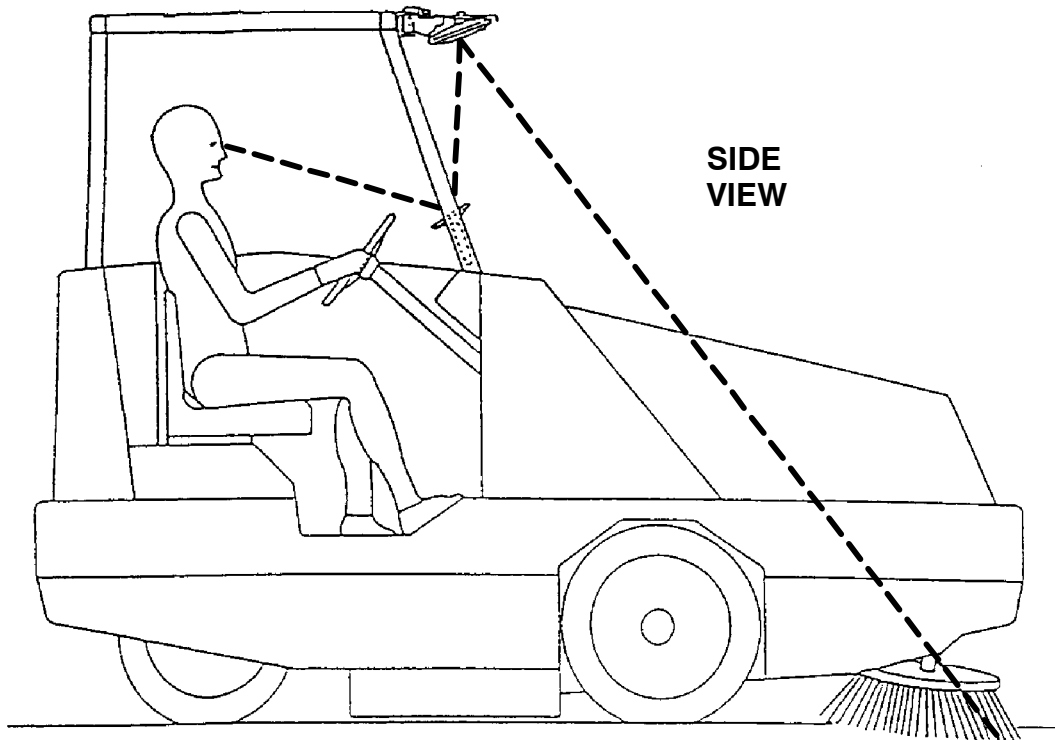
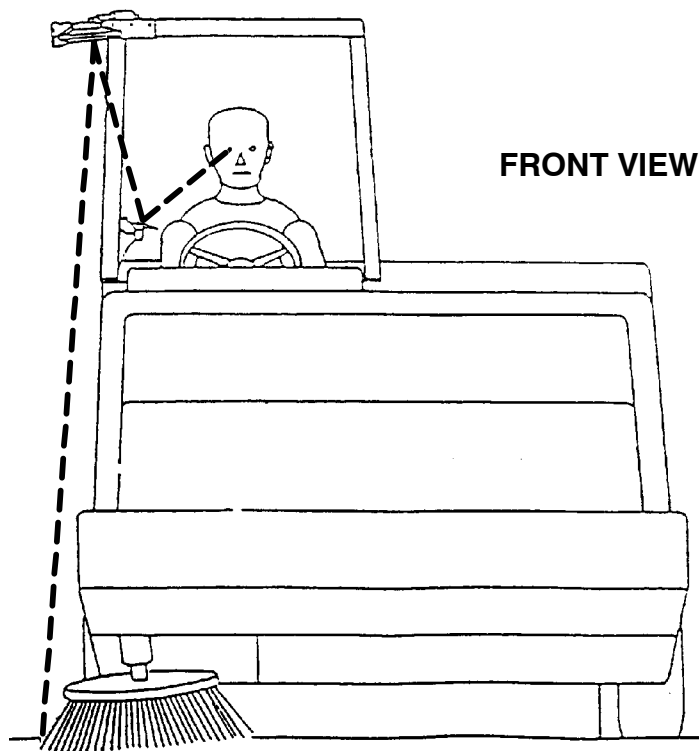

FIG. 5 – Side Brush Mirror View Angle (Side View)
FIG. 6 – Side Brush Mirror View Angle (Front View)
7. Focus mirrors so sidebrush area is visible to operator and tighten mirror hardware. Refer to FIG. 5 and FIG. 6 for mirror viewing angles.